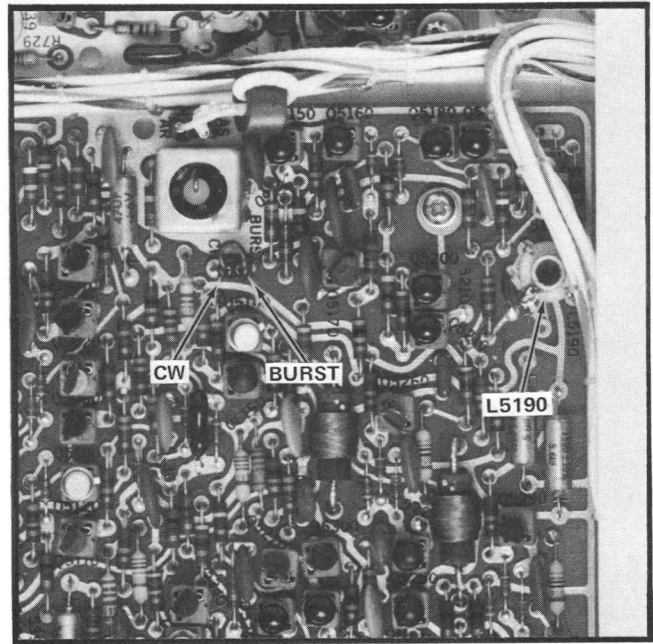

Fig. 6-20. Gen Lock board adjustment location; location of BURST-CW jumper wire.
i. ADJUST—L5190 (see Fig. 6-20) to align the vector at 45°.
c. Remove the BURST-CW jumper wire (see Fig. 6-20).